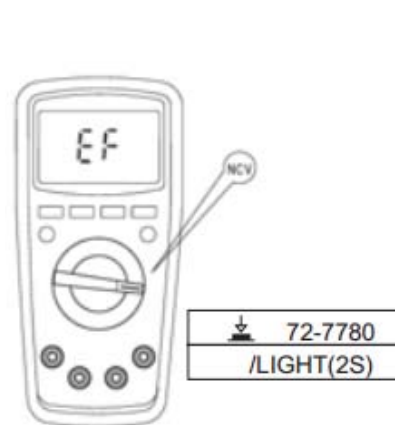

Figure 12
9. NCV measurement (see figure 12)